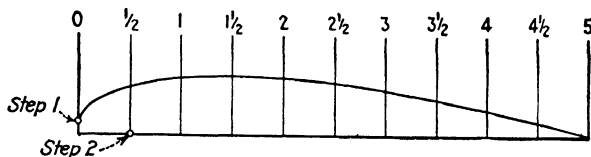

Fig. 180.
Step 1.—At station 0, the lower camber is  $\frac{9}{16}$  in. above the datum line. Notice that this is the same point as that of the upper camber (see Fig. 180).
Step 2.—At station  $\frac{1}{2}$  in., the lower camber is 0 in. high, that is, flat on the datum line as shown in Fig. 180.